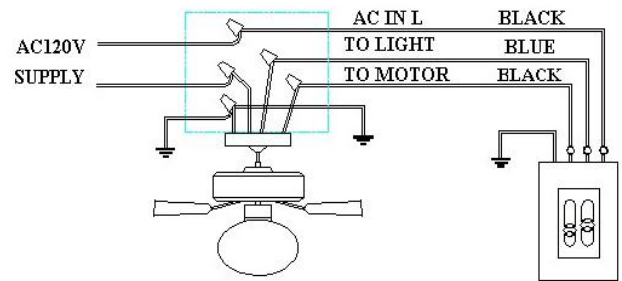

Figure 2
3. Make wire connections and secure with wire nuts supplied, refer to (Figure 2)